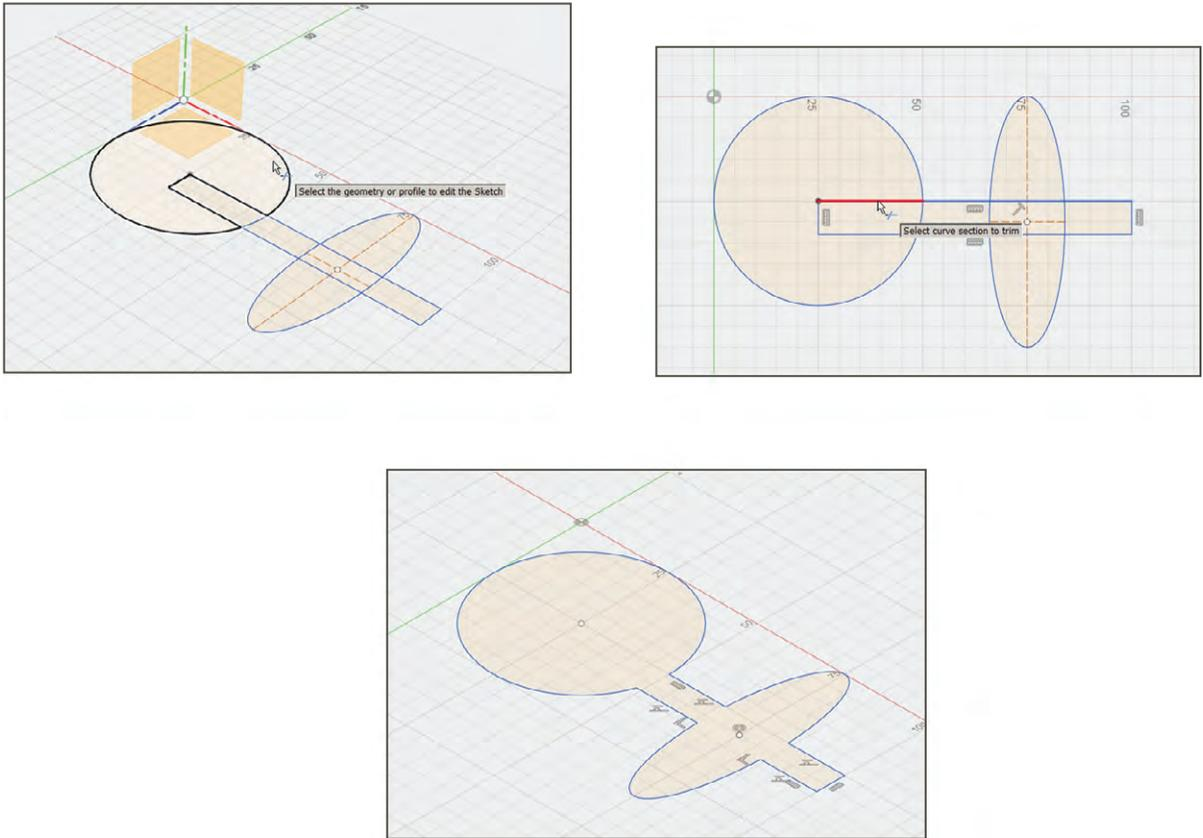

FIGURE 2-39: Trim overlapping sketch curves.
- ▶ **Trim:** This tool lets you remove sketch curves between overlapping sketches. In the process it creates a new, separate shape. The sketch curves all have to be on the same sketch. Click the Trim tool onto one of the sketch curves, then hover it over a line you want to remove. It will turn red. Click, and the sketch curve will disappear (Figure 2-39). Clicking trims lines one at a time. Alternatively, press and hold the left mouse button and slide it to trim continuously.